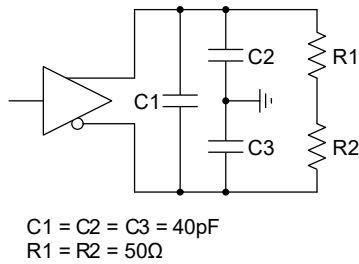
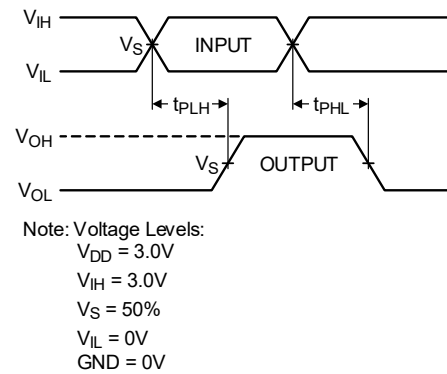

Figure 2. Propagation Delay Load Circuit
Figure 3. Propagation Delay Timing Diagram
12. See table EIA RS-422. See Figure 2 and Figure 3.